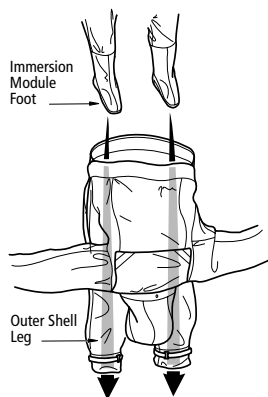

FIGURE 10
- c) Feed the left leg of the thermal liner/immersion module assembly through the left leg of the outer shell and pull it through. Repeat this procedure for the right leg (see fig. 10).